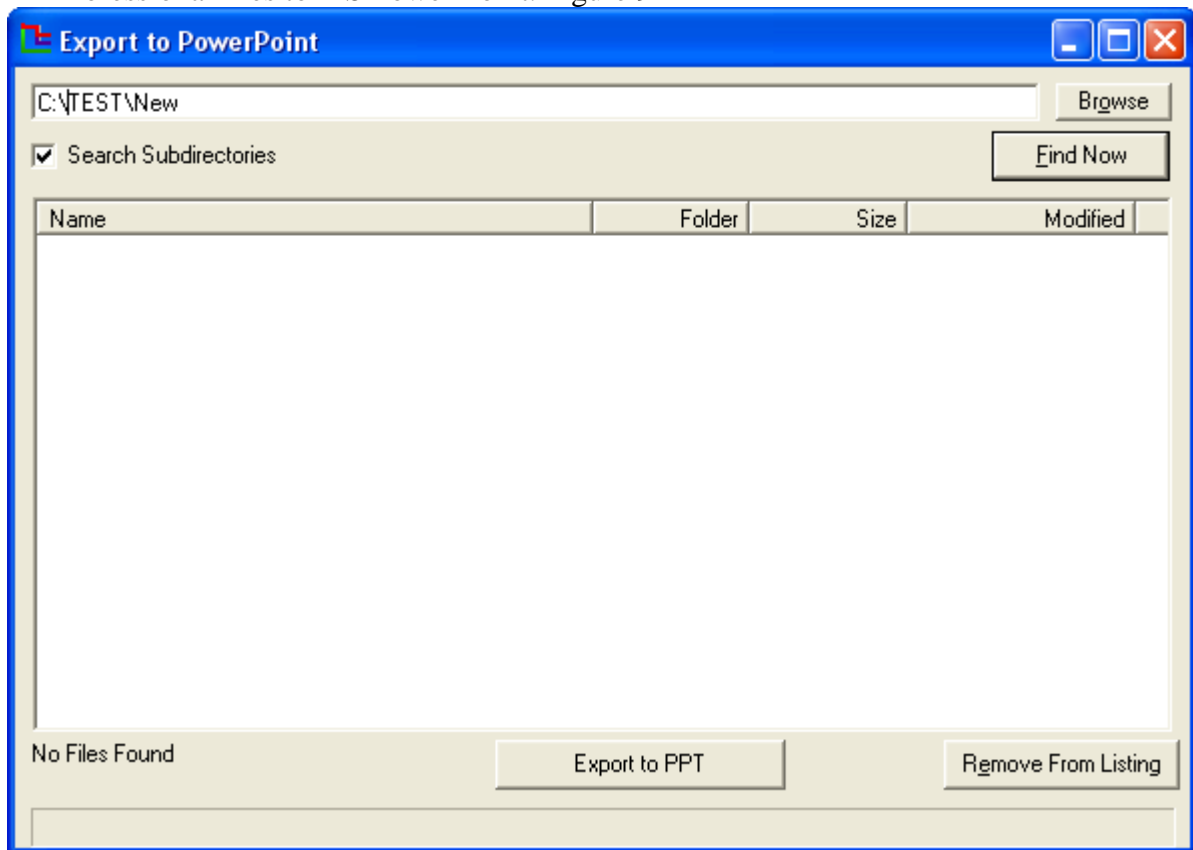

Figure 9
- 3) The export utility interface has several fields and options to enable exporting of Milestones Professional files to MS Power Point. Figure 9